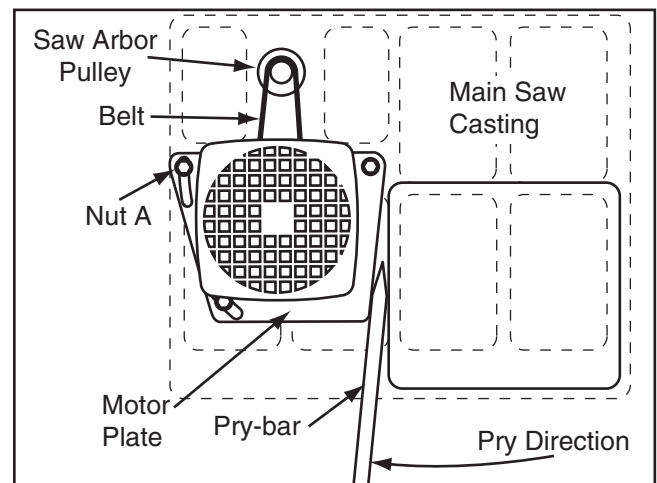

Figure 88. Scoring motor illustration.
2. Place a pry-bar between the motor plate and the main saw casting, as shown in **Figure 88**.
3. Pry in the direction shown in **Figure 88** to release tension from the belt, then tighten **Nut A** to lock the motor in this position.